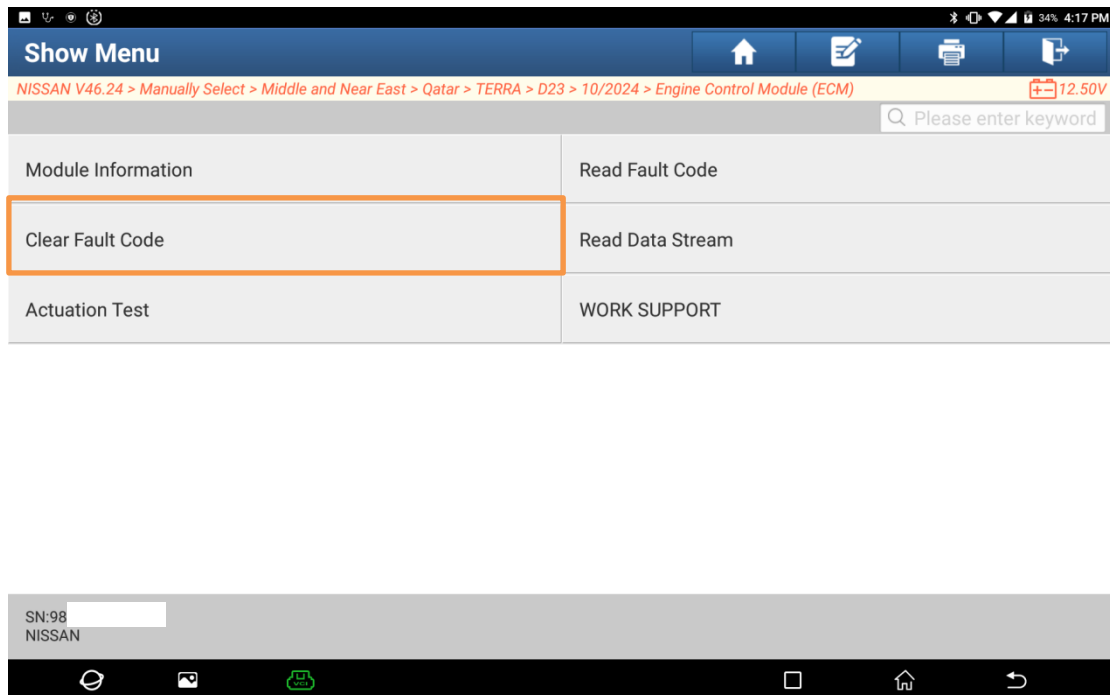

Figure 31
20. Exit to the ECM menu interface, click [Clear Fault Code] (Figure 31), click [Yes], and then click [OK] to clear the DTC information.